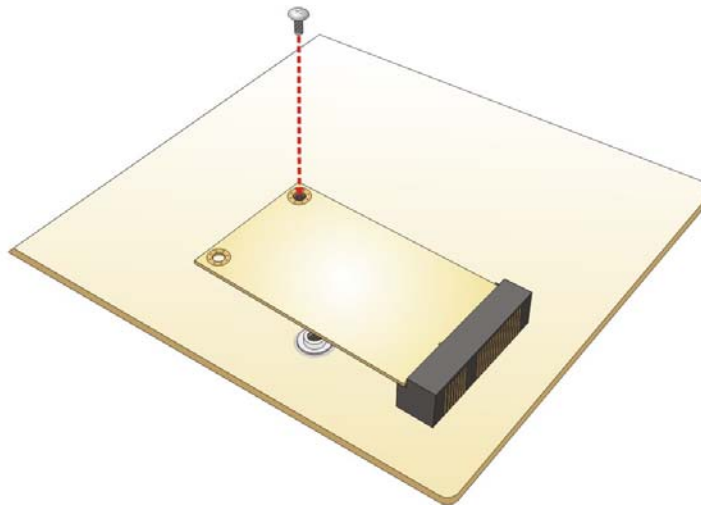

Figure 4-5: Securing the mSATA Module
Step 4: Secure the mSATA module. Secure the mSATA module with the retention screw previously removed (Figure 4-5).